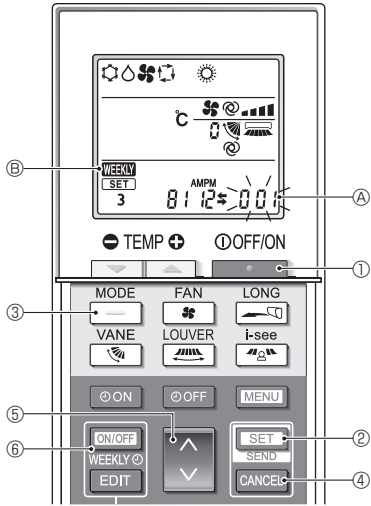

Fig. 6-7
6.8.8. How to disable Auto mode operation (Fig. 6-7)
- Press the **STOP** button ① to stop the air conditioner.
- If the weekly timer is enabled, press the **ON/OFF WEEKLY** button ⑥ to disable the timer. (**WEEKLY** ⑥ disappears.)
- Press the **SET** button ② for 5 seconds.
- The unit enters the function setting mode. (The group model setting number ④ blinks.)
- Press the **UP** button ④.
- Completing the settings (Fig. 6-7)